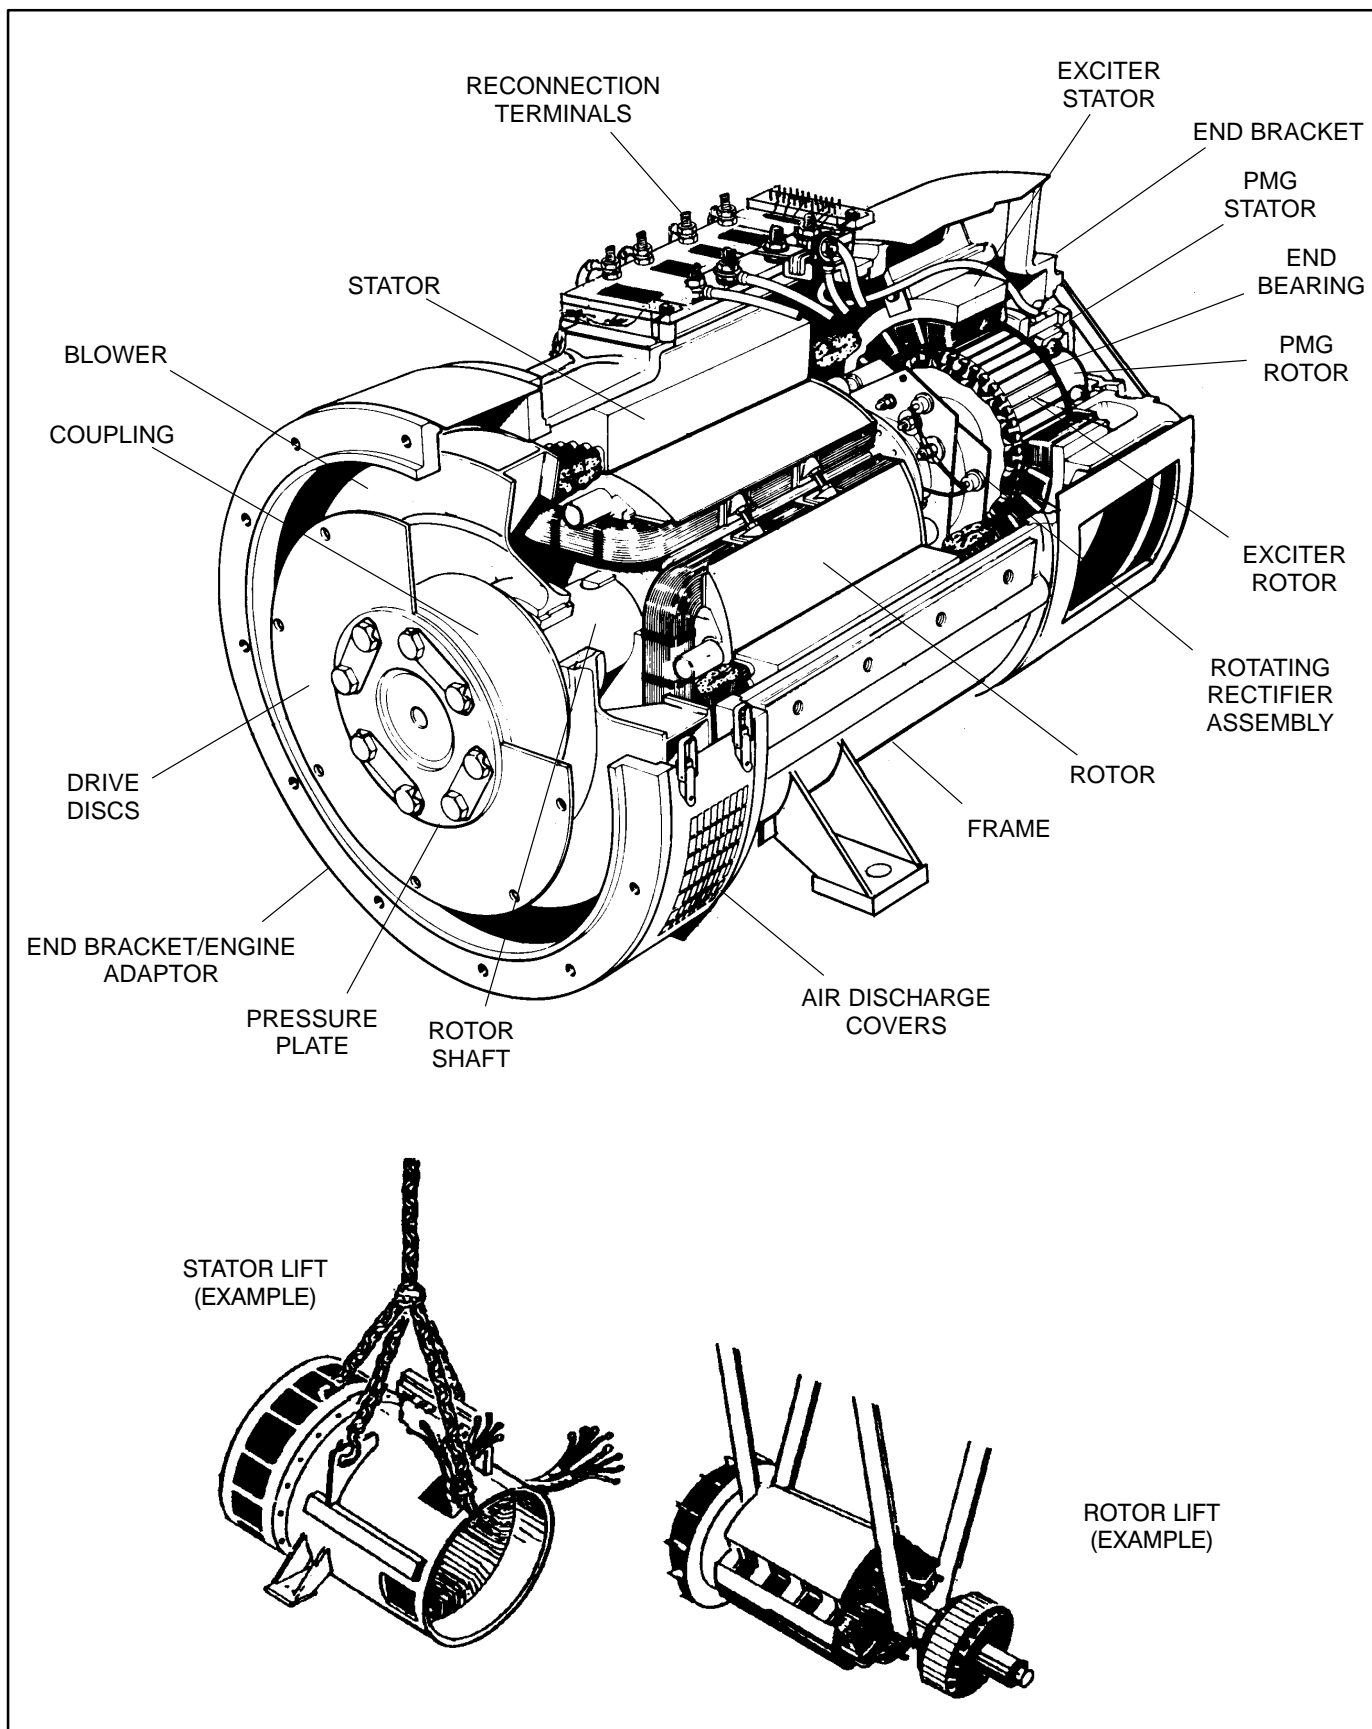
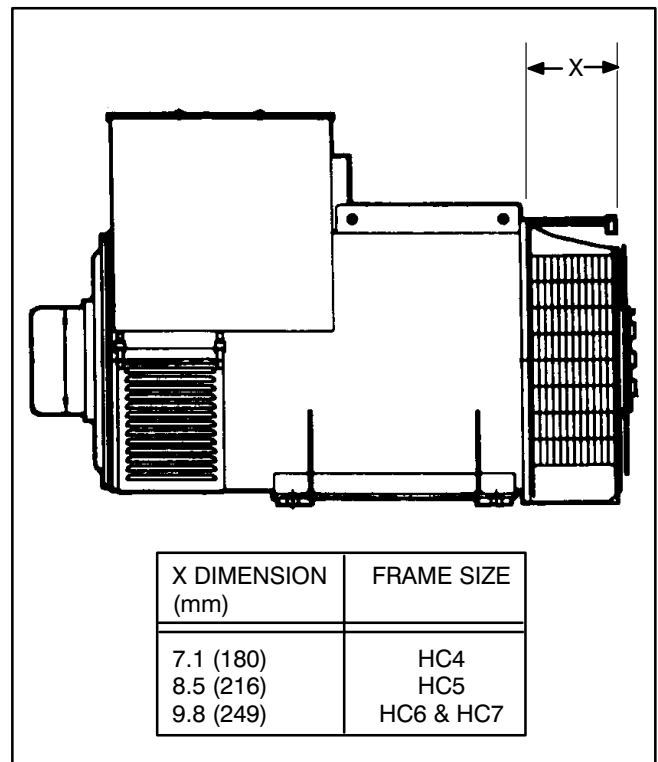

FIGURE 6-11. TYPICAL GENERATOR ASSEMBLY
FIGURE 6-13. GENERATOR FRAME SIZE
22. Using a forklift, position a lifting bar of the forklift (inside and inline with the generator) under the rotor shaft. Lift the rotor shaft slightly so that rotor is not resting on inside of stator assembly. See Figure 6-11.
25. Reposition or add hoist and sling support for the main rotor, and remove the forklift. See Figure 6-11, Rotor Lift detail.
30. Using an adequate lifting device, lift the generator (at lifting eyes provided, and main stator housing) until the mounting feet brackets are clear of the frame member (see Figures 6-11 and 6-12).
- Align the holes of the engine adaptor endbracket with the holes in the flywheel housing and install the capscrews and lock washers. Refer to Figure 6-13 and Table 6-4 for torque specifications.
- Secure the rotor assembly to the flywheel. Refer to Figure 6-13 and Table 6-4 for torque specifications.
19. Secure the rotor assembly drive disc to the flywheel using appropriate cap screws and flat washers. Refer to Figure 6-13 and Table 6-4 for torque specifications. Do not allow rotor assembly to hang on engine flywheel. (Refer to Figure 6-11.)
21. Using a forklift, position a lifting bar of the forklift (inside and inline with the generator) under the rotor shaft. Lift the rotor shaft slightly so that rotor is not resting on inside of stator assembly. See Figure 6-11.
22. Remove the hoist/sling support of the rotor assembly. Align the holes of the engine adaptor endbracket with the holes in the flywheel housing and install the capscrews and lock washers. Refer to Figure 6-13 and Table 6-4 for torque specifications.